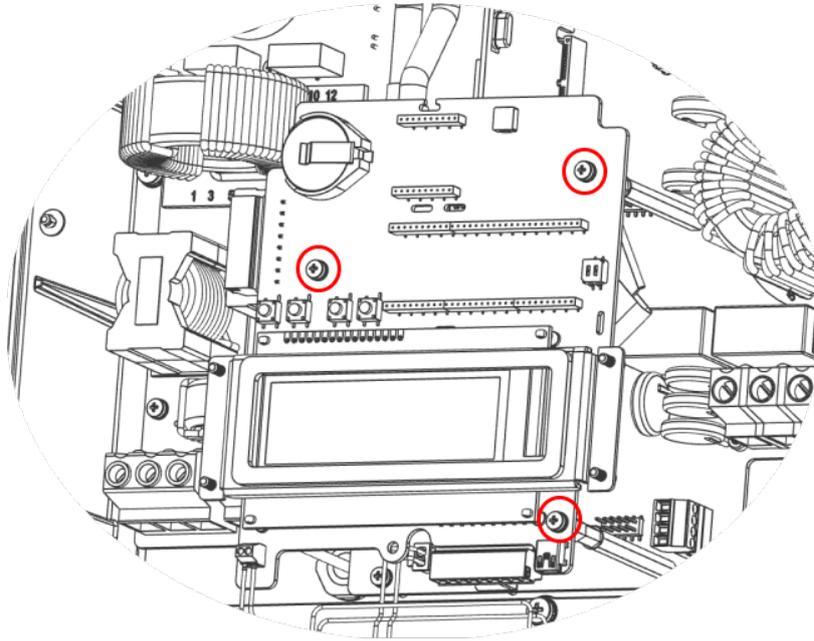

Figure 3: Screws on communication board (before replacement)
1. Carefully disconnect the following connectors (see *Figure 3*) from the communication board:
4. Remove the three screws (circled in *Figure 3*) that attach the communication board to the power board standoffs. Hold the stand offs to avoid their rotation with the screws.
2. Position the new board over the standoffs and fasten it using the four previously removed screws (see *Figure 3*).